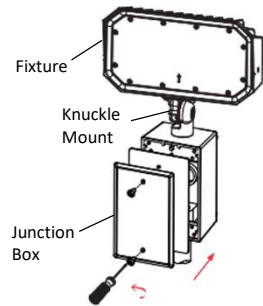

Figure 16
3. Close the junction box. **See Figure 16.**